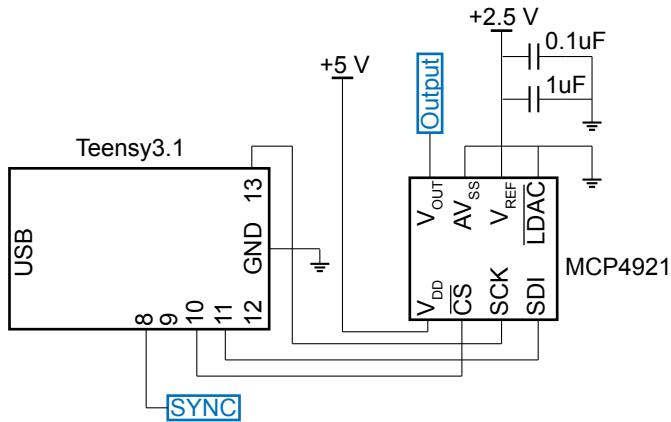

Figure 10: Schematic of the connection between Arduino UNO and the MCP4921.
1. Using Fig. 10 as a reference, connect the Teensy to the MCP4921 DAC. Connect the MCP4921's VDD pin to the output of the LM317 regulator (5 V). Connect the MCP4921's VREF pin to the LT1009 reference's output (2.5 V). Connect both AVSS and LDAC of the MCP4921 to ground. A 0.1 μ F and a 1 μ F capacitor could be used at VREF to minimize noise at the reference. It is very important to keep your circuit (ICs, resistors, capacitors, wires, etc) organized. Use as short of a wire as possible between two connection points. Refer to Fig. ?? for an example layout.